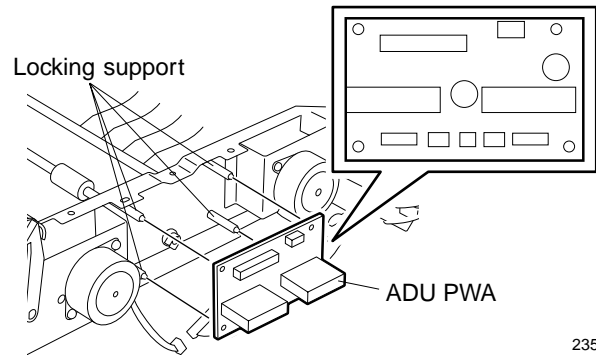

Fig. 6-14
7. Remove ADU PWA. (See Fig. 6-14)